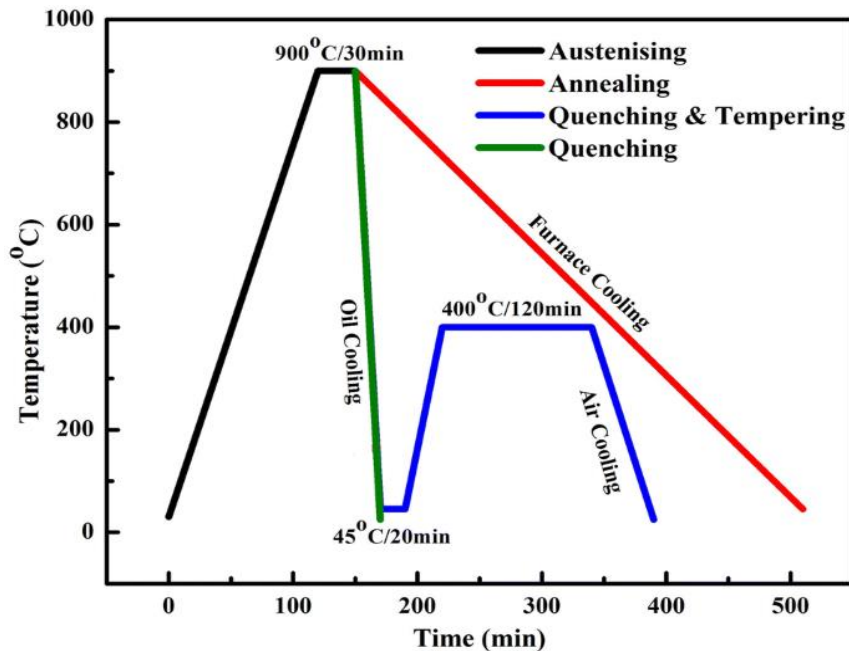

Figure 3 / *Rajah 3* : Some heat treatment route for AISI 4140 Steel / *Beberapa laluan rawatan haba untuk keluli AISI 4140*
- (b). Figure 3 illustrates some heat treatment route done on AISI 4140 steel to study the effect of heat treatment to the mechanical and corrosion behavior of the steel. Explain each of the process; austenising, annealing, quenching and tempering, and quenching. Your explanation should include the process, what happens during the process, and expected microstructure at the end of the heat treatment.